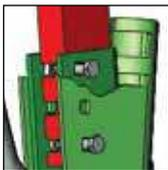

FIG. 2
**NOTES:** **Installation bolts sold separately.** Use 3/8" x 2-1/4" Grade 8 carriage bolts. See page 106 for more details. When installing use bolt holes pictured in Fig. 2 on page 27.
**NOTES:** **Installation bolts sold separately.** Use 3/8" x 2-1/4" Grade 8 carriage bolts. See page 106 for more details. When installing on a Bourgaault PHD use bolt holes pictured in Fig. 2